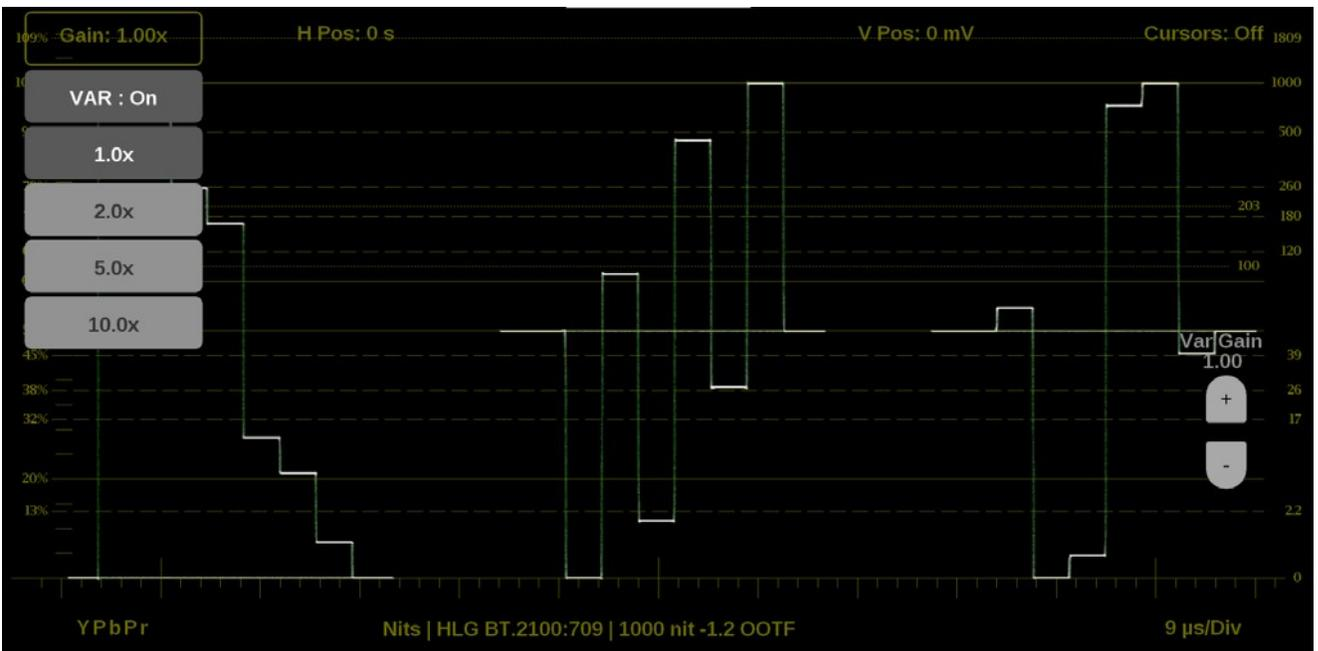

Figure 85: Waveform on-screen tools – Gain
1. Select the **Gain** button to expand the available magnification options drop down list. (See Figure 85.)